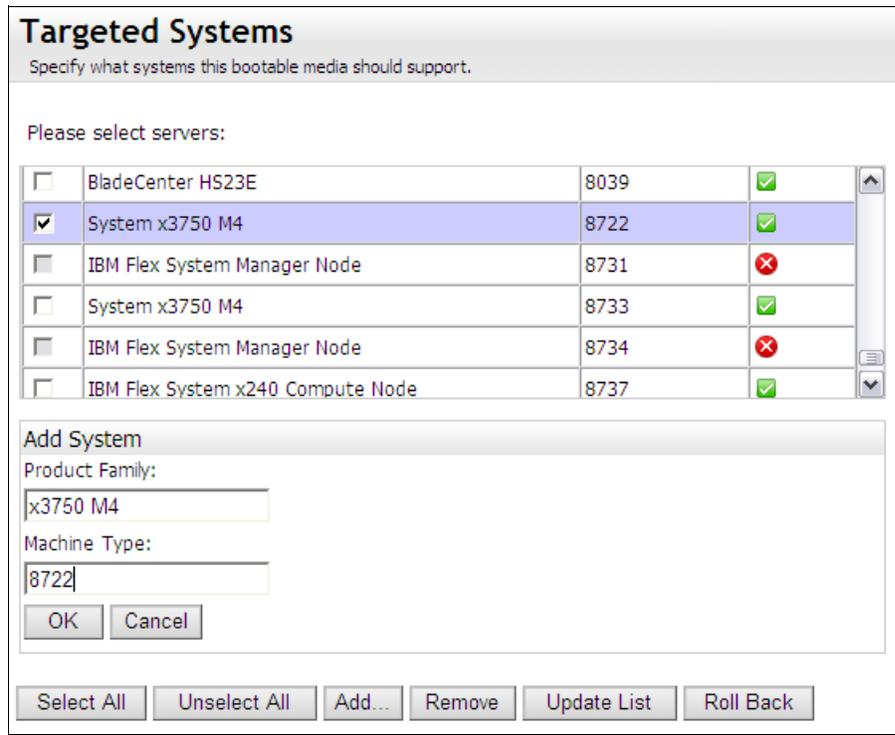

Figure 4-4 Targeted Systems window
- The next step is to set the HTTP Proxy settings (if needed) to allow the tool to access the Internet if it was selected to Check the Lenovo website for downloads. Click **Next** to specify the target system. Figure 4-4 shows the Targeted Systems window.